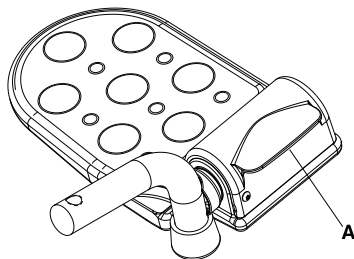

Figure 5: Flip-up footrest lever
4. Using your foot, lower the flip-up footrest to the transport position by lifting up on the footrest lever (A) (Figure 5 on page 12).